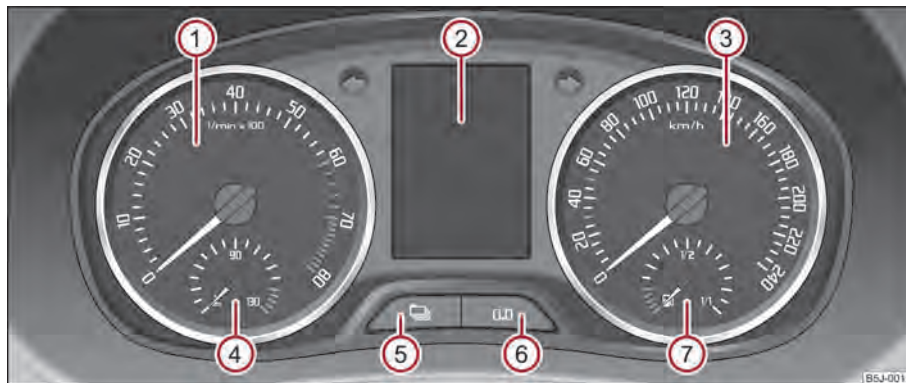

Fig. 2 Instrument cluster
The red zone of the rev counter scale ① ⇒ fig. 2 indicates the range in which the engine control unit begins to limit the engine speed. The engine control unit restricts the engine speed to a steady limit value.
The coolant temperature gauge ④ ⇒ fig. 2 operates only when the ignition is switched on.
The fuel gauge ⑦ ⇒ fig. 2 only operates when the ignition is switched on.
If you hold the reset button  => fig. 2 pressed for about 1 second, the trip counter is set back to zero.